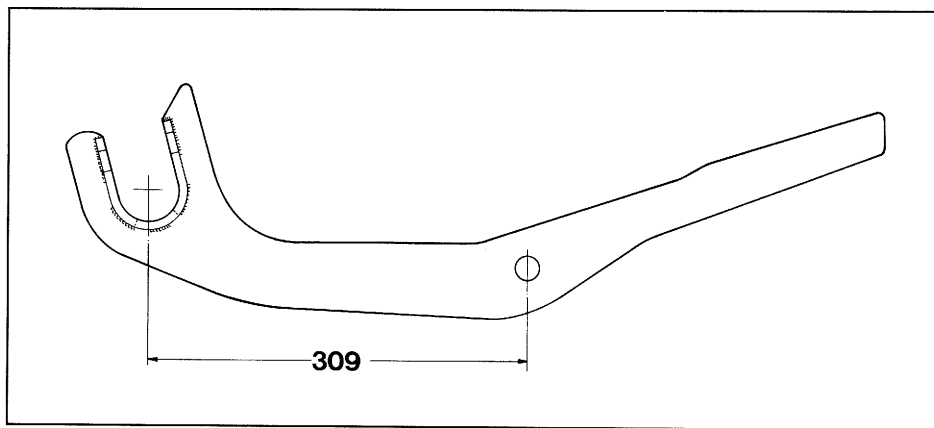

Fig. 18
-  Equip tyre packer with the catch hooks for the pack top seed drill AD-2 (Fig. 18).